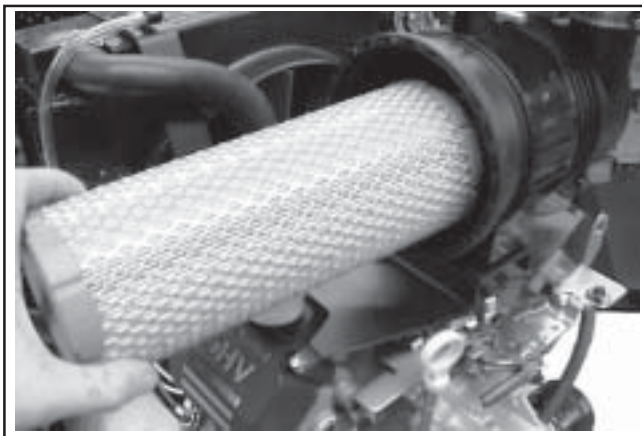

Figure 4-5. Removing Air Cleaner Element.
2. Pull the air cleaner element out of the housing. See Figure 4-5.